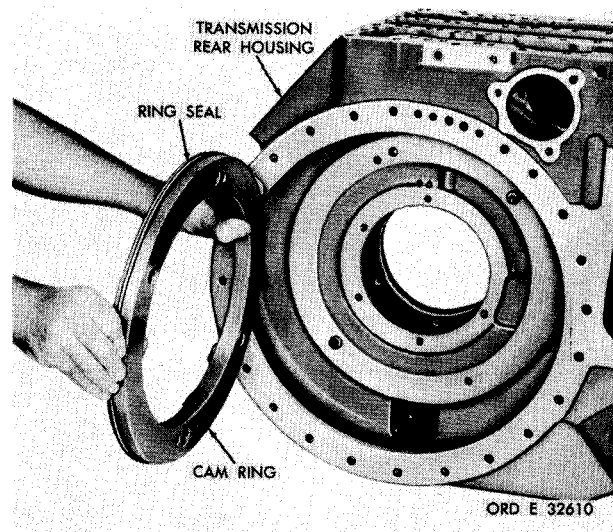

Figure 191. Removing (or installing) right-brake apply cam stationary ring
\*C2 au. Remove right-brake apply cam stationary ring (fig. 191). Do not remove ring seal and expander from ring, unless replacement is necessary.
\*C2 b. If ring seal and expander were removed from right-brake apply cam stationary ring, install new replacements (fig. 191).
c. Install rightbrake apply cam stationary ring in the transmission rear housing (fig. 191).